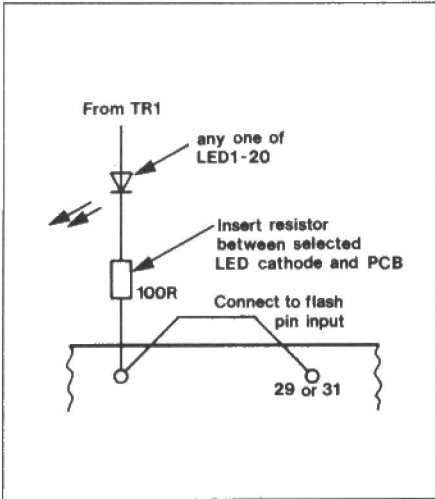

Figure 4. Connection for flashing mode
Flash input pin 31 (29) can be connected to any one (only) of LED's 1 to 10 (11 to 20) as shown in Figure 4. It is important to connect a 100 Ω resistor in series with the chosen LED otherwise insufficient discharge current for C1 (C2) is developed. For example, connecting LED 10 via a 100 Ω resistor to pin 9 on the PCB and connecting pin 9 to pin 31 flash input, will cause all ten LED's to flash twice a second and could signify display over voltage in a voltmeter project.